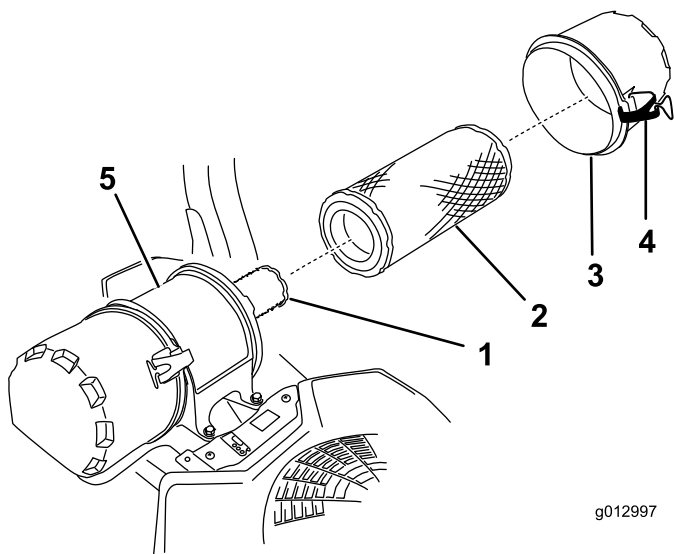

**Figure 63**
6. Release the latches on the air cleaner and pull the air-cleaner cover off the air-cleaner body (Figure 63).
8. Gently slide the primary filter out of the air-cleaner body (Figure 63).
2. If you are replacing the safety filter, carefully slide it into the filter body (Figure 63).
3. Carefully slide the primary filter over the safety filter (Figure 63).
4. Install the air-cleaner cover and secure the latches (Figure 63).